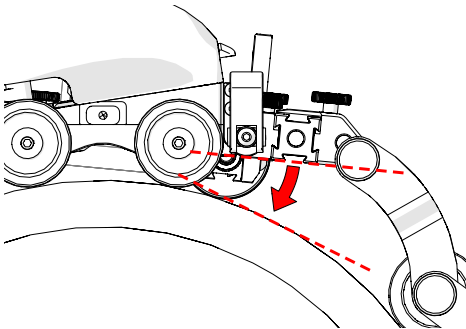
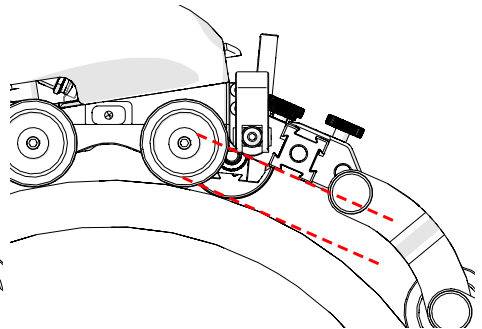

Fig. 147 - Lower pivot nose
Fig. 148 - Parallel with scan surface tangent
6. Adjust the pivot nose (Fig. 147) angle to align the frame bar parallel with the tangent of the scan surface (Fig. 148).